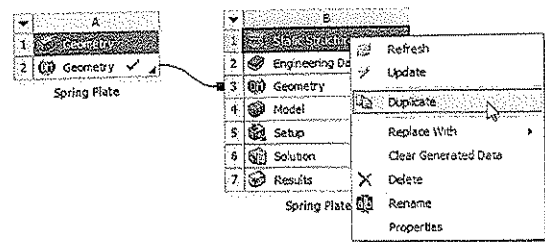

Figure 9-55 Choosing the *Duplicate* option
2. From this shortcut menu, choose the **Duplicate** option, as shown in Figure 9-55; the **Copy of Spring Plate** analysis system is created in the **Project Schematic** window.